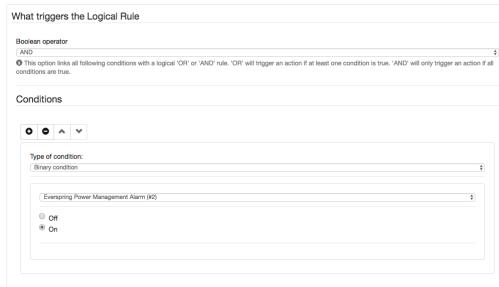

Figure 6.10: Logical Rule
Figure 6.10 shows the configuration of the '**LOGICAL RULE**'. The first section allows defining certain conditions (status or events) and defines if all of them (AND) or just one of them (OR) will trigger the rule.